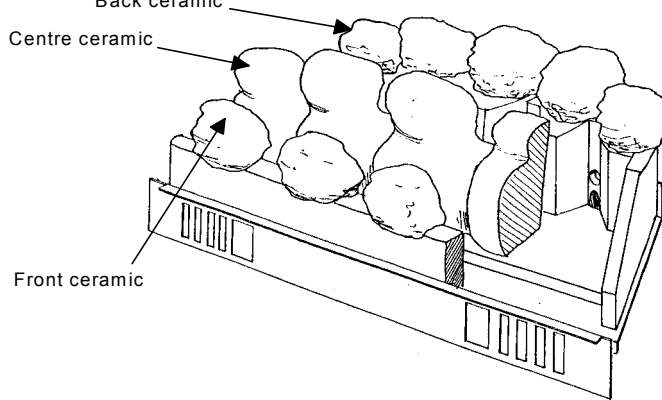

Fig.5 Assembling the ceramic blocks
3. The ceramic components are fragile and should be handled with care. Refer to Figs. 5 and 6 for positioning of ceramic fibre blocks and coals.
13. Replace the ceramic blocks and coals (see Figs. 5 and 6).